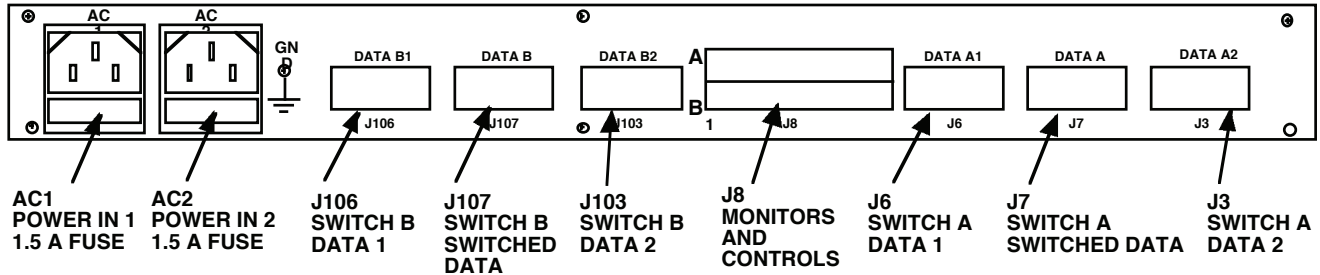

FIGURE 2.0 1582-14 Rear Panel I/O's
2.2 Rear Panel Inputs and Outputs - Figure 2.0 shows the input and output connectors on the rear panel.